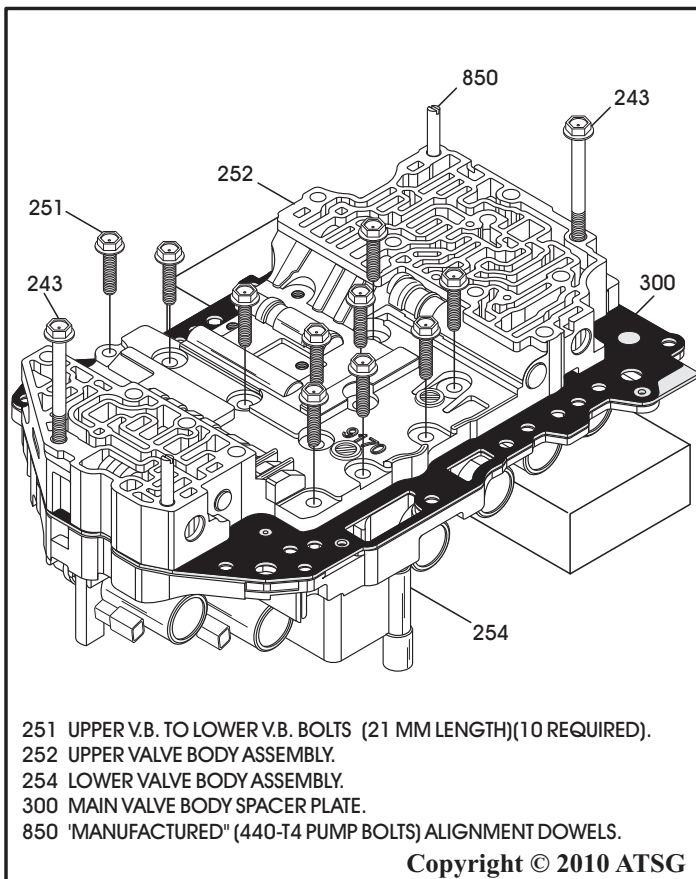

Figure 156
21. As you lower the upper valve body and spacer plate assembly into place, temporarily installed accumulator bolts will start to automatically start to move out, as shown in Figure 156.
22. With all of temporary alignment dowels still in place, hold upper valve body and spacer plate against the lower valve body, ensuring all small parts are in place, and then install ten retaining bolts, as shown in Figure 156.